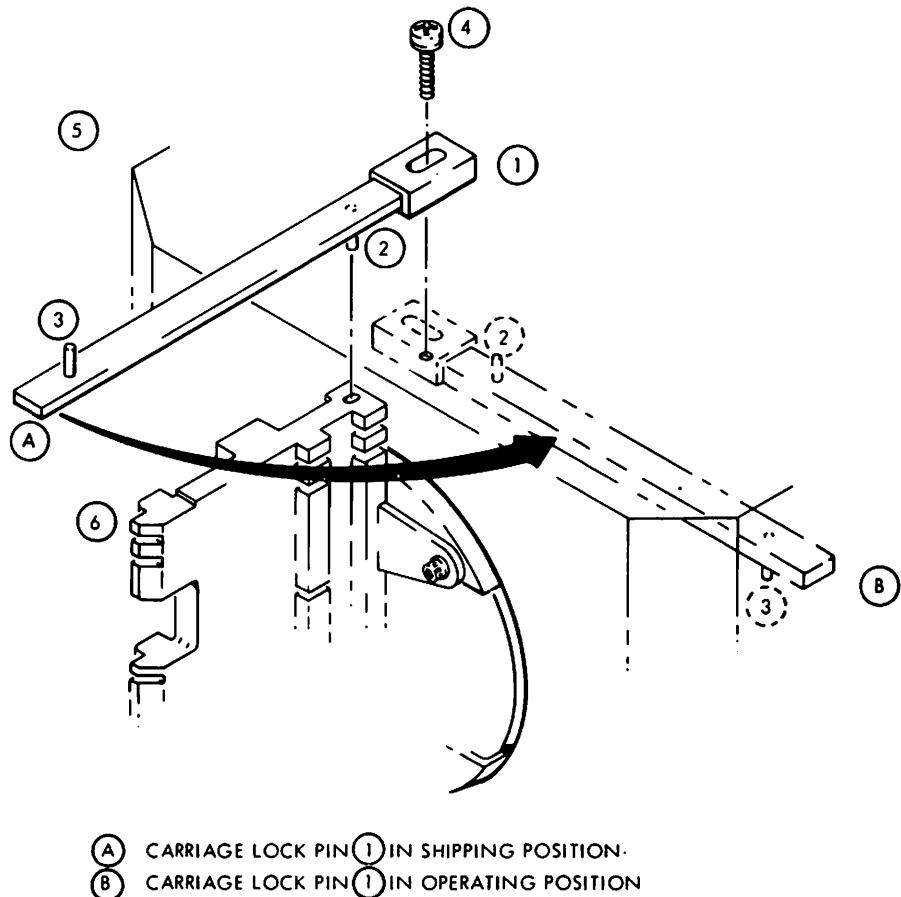

Figure 3-1. Carriage Locking Tool - Shipping Position
- C. Refer to Figure 3-1. Remove the screw **④** which secures the carriage locking tool **①**. Lift the Locking tool to remove the pin **②** from the hole in the carriage **⑥**. Swing the locking tool around to the operating position **B**. Reinstall the screw to secure the locking tool to the magnet in the operating position.